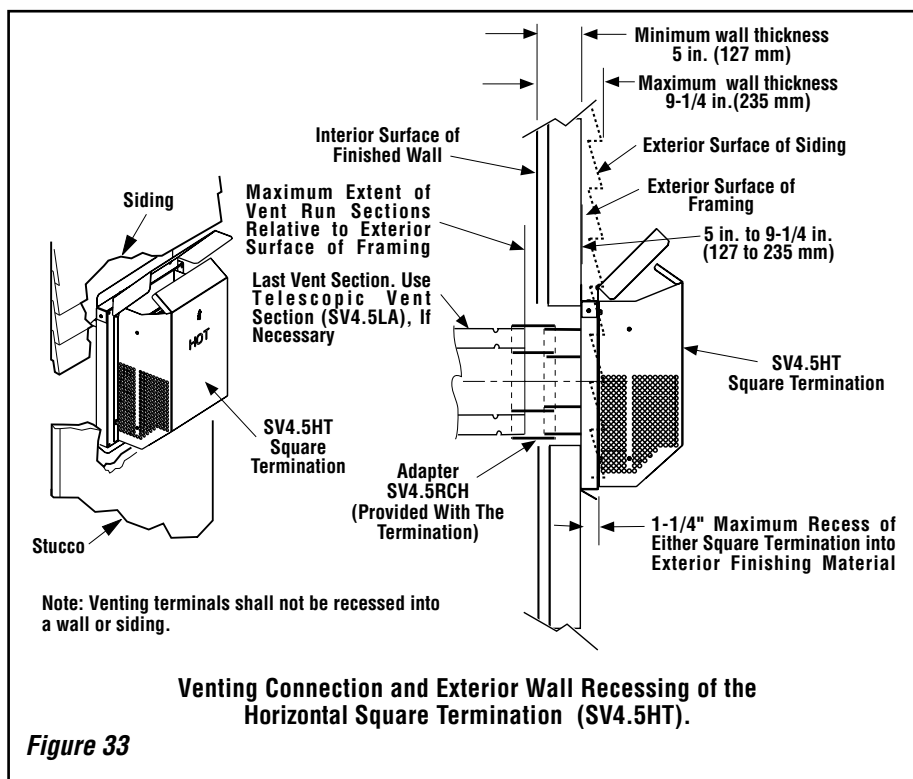

Figure 33
J. Assemble vent run to exterior wall - If not previously measured, locate the center of the vent at the exterior wall. Prepare an opening as described in **Step B**. Assemble the vent system to point where the terminus of the last section is within 5 in. (127 mm) to 9-1/4 in. (235 mm) inboard of the exterior surface to which the termination is to be attached, see **Figure 33**. If the terminus of the last section is not within this distance, use the **telescopic vent section SV4.5LA**, as the last vent section. For wall thicknesses greater than that shown in **Figure 33**, refer to **Table 7 on page 20**. This table lists the additional venting components needed (in addition to the termination and adapter) for a particular range of wall thicknesses.